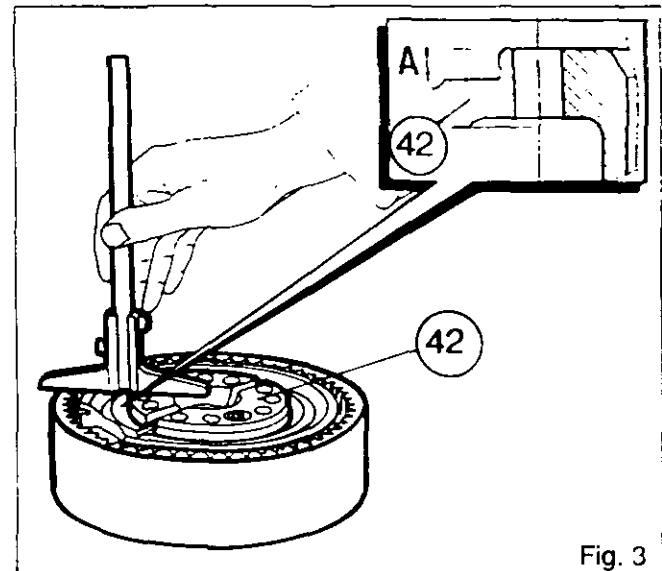
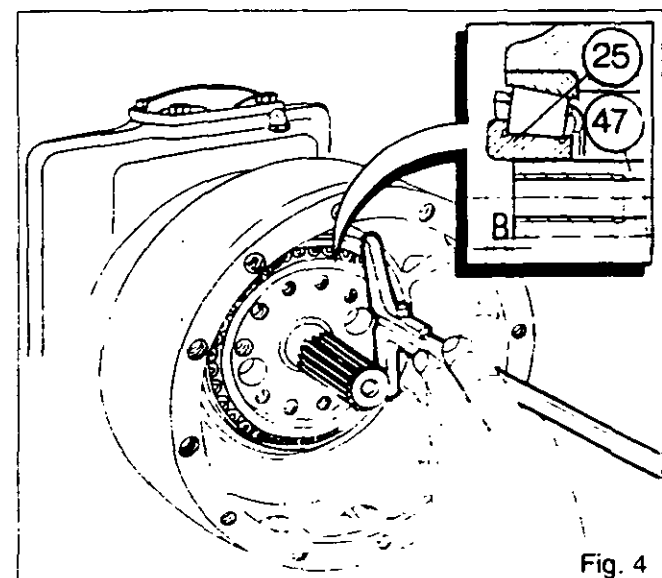

Fig. 3
Fig. 4
36. If the bearing cone (18) and the bearing cups (19) and (23) are to be replaced, push the bearing cone in the swivel housing and the bearing cups in the wheel hub until they meet the shoulder. Smear the outer periphery of the oil seal (45) with Loctite 542. Push against the shoulder without deforming it.
37. Fit the wheel hub (22) on the swivel housing (47). Fit the bearing cone (25) supported by the bearing cup (23) to determine shims required to obtain : **P2 = + 0.05 mm.**
38. Using a depth gauge, check the height "A" of the ring gear carrier (42) (Fig. 3) and the protrusion "B" of the bearing cone (25) out from the housing (47) (Fig. 4).